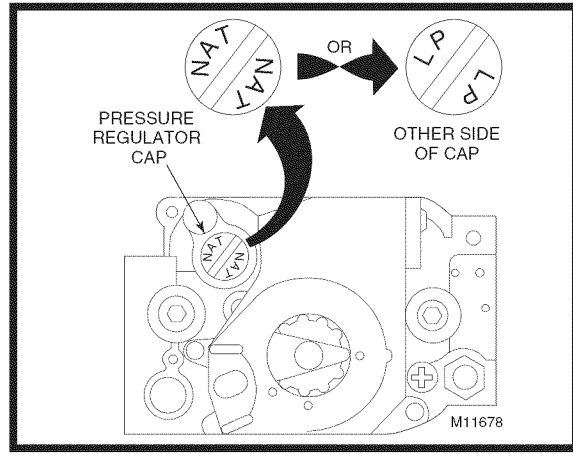

Figure 28. Honeywell Gas Valve
- a. Remove screw(s) from gas valve bracket. Gas valve and spud may be removed. Orifice is located at the end of the spud (M1G or M1M) or remove three (3) bolts from U-shaped manifold plate and orifice assembly (M1B).
6. For Honeywell gas valves with the regulator converter (Figure 28, page 19):